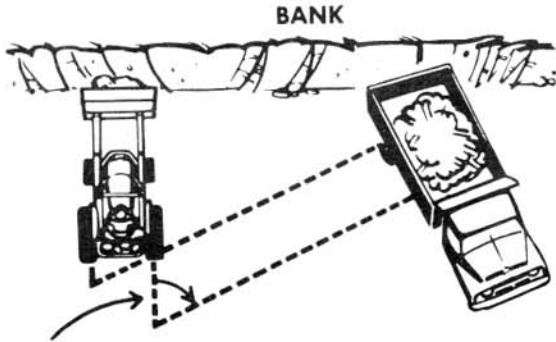

*Figure 2*
**Loader Controls:** The loader operation is controlled by two levers, Figure 2. Each lever has three positions as shown. The levers can be operated together for faster breakout and more aggressive bucket action.